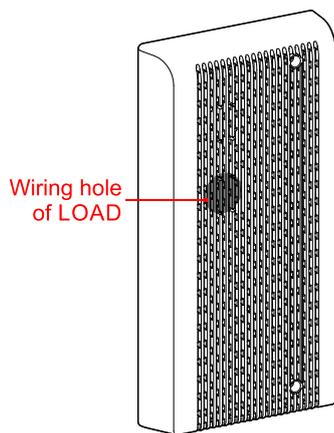

Figure3-41 Knock down hole of LOAD
- If the grid connection adopts multi-core wires, the wiring must go through the side panel. So, it is necessary to knock-off the wiring hole of grid on the decoration panel, as shown in Figure3-41.
- If the grid connection adopts the single-core wires, the wiring can go through side or back. When wiring from side, the wiring holes also needs to be knock off, as shown in Figure3-41.